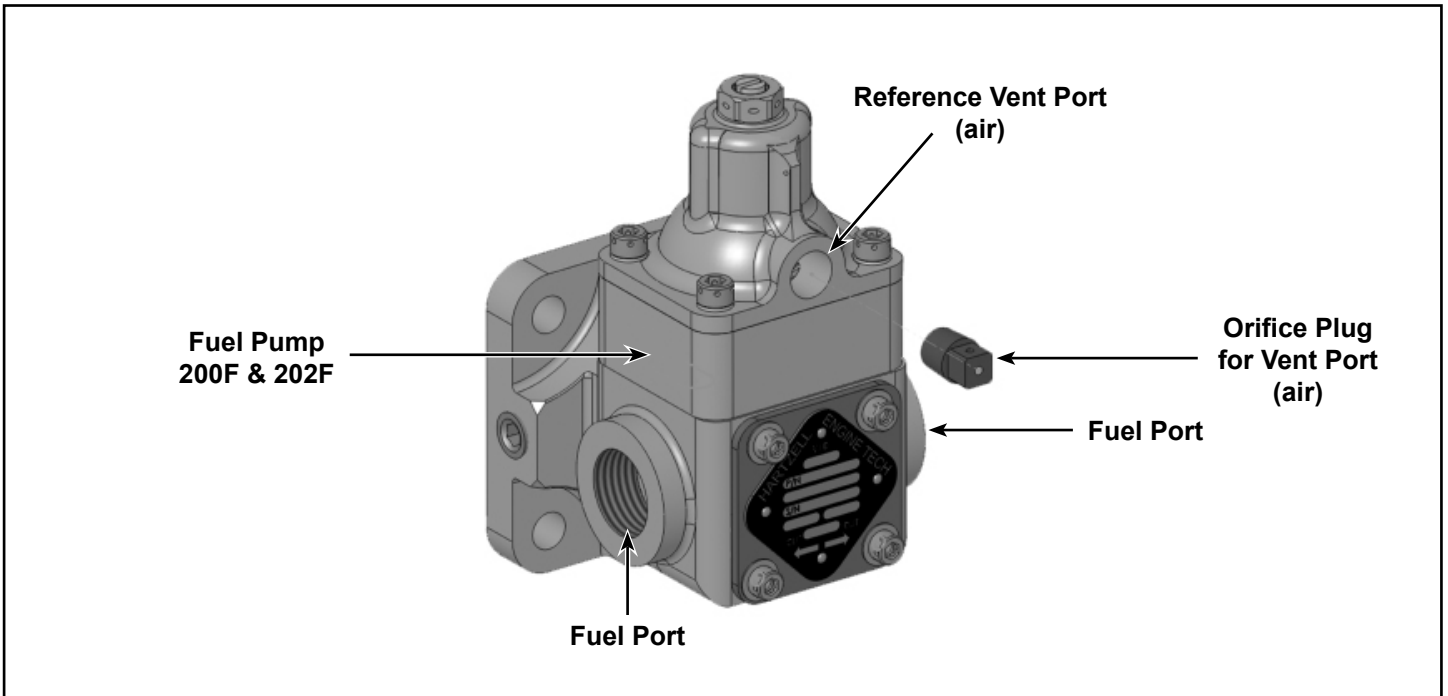
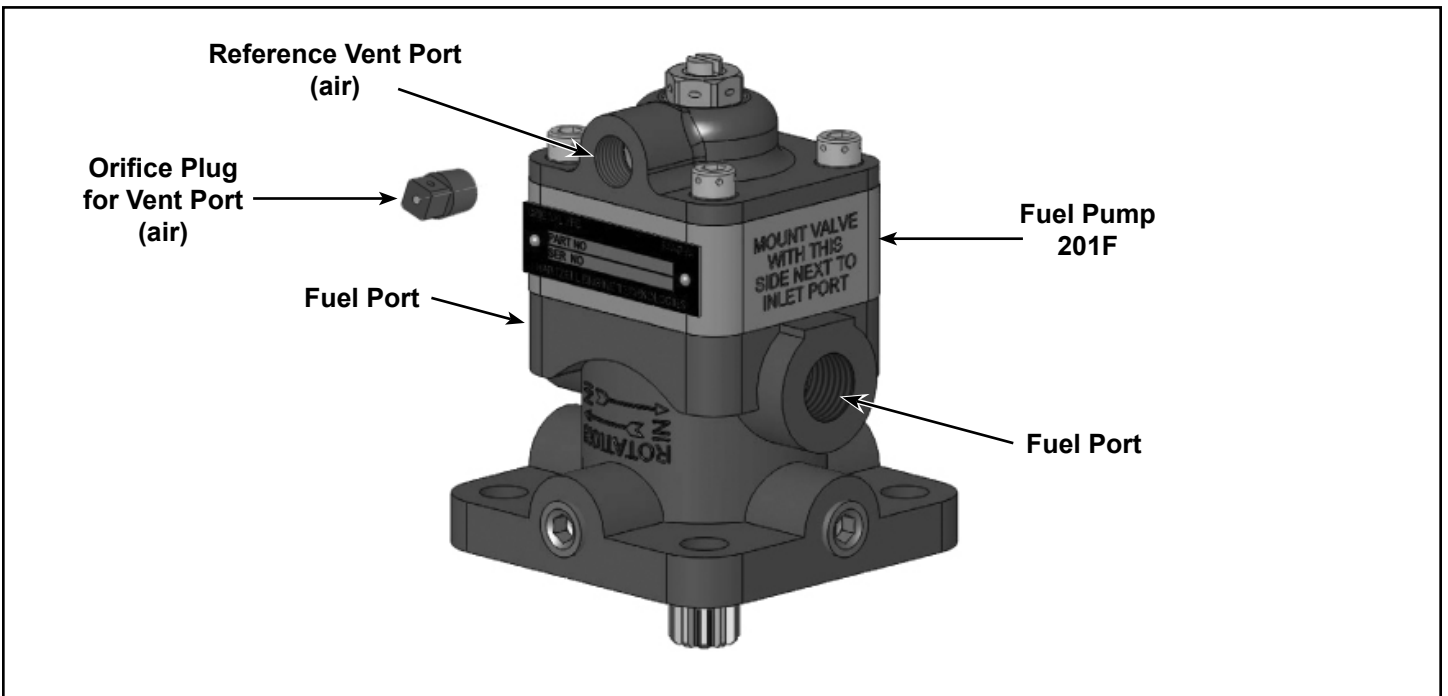

Figure 1 - 200F & 202F Identification
Figure 2 - 201F Identification
- (1) The HET series fuel pumps use the reference vent port in several ways. The port may have an orifice plug installed, a fitting for an upper deck reference line, or a fitting to connect to the engine turbocharger reference.
- (a) Inspection of the orifice plug requires only a visual inspection. Look around the plug and into the orifice for fuel or blue dye stains. Refer to Fig. 1 or Fig. 2.